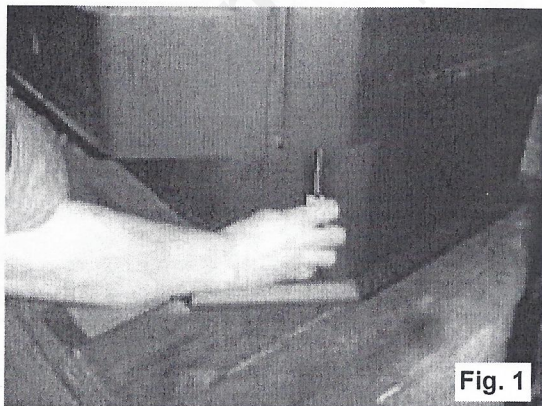

Fig. 1
1. Freestand only - Remove screws from right side and left side panels and open to access (see Fig. 1).
17. Close and secure side panels (see Fig. 1).